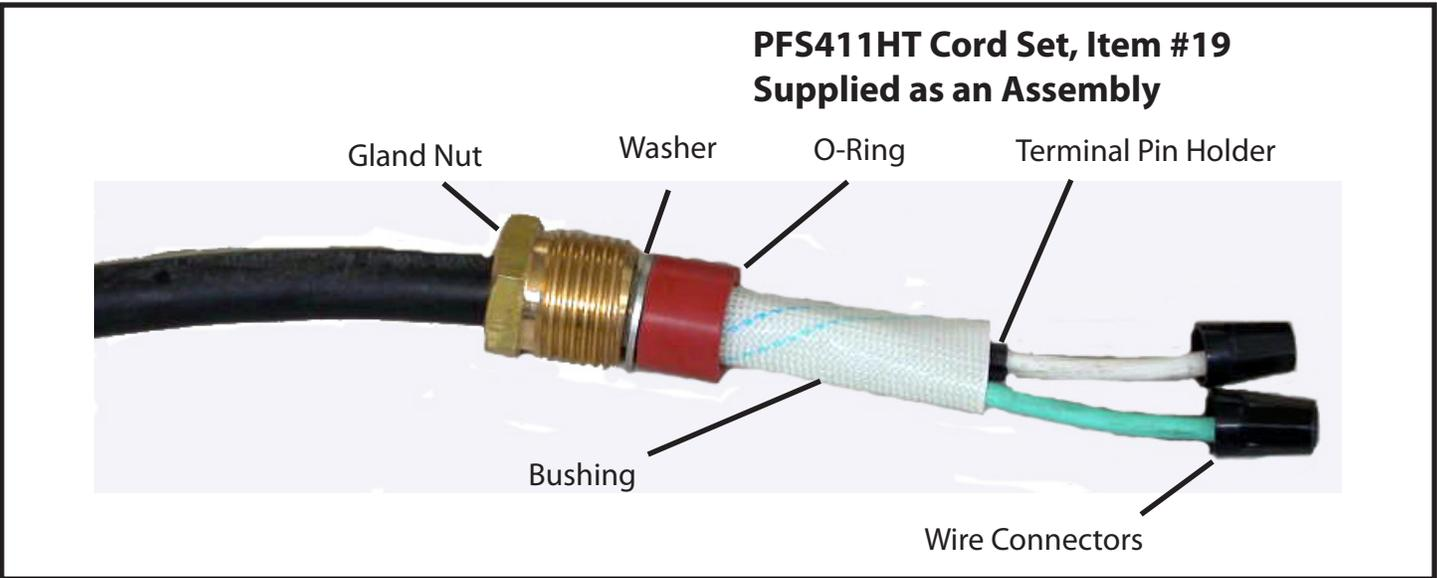

Figure 7
2. Remove cap screws (42) and remove strainer (39) on HT model. (See Fig 7)
3. Remove cap screw (34) and washers (35) vertically lift motor, housing and seal plate assembly from volute (1). Clean out volute (1) if necessary.
4. Inspect gasket (2) and replace if cut or damaged.
5. Clean and examine impeller (38), for cracks or breakage and replace if required. To remove impeller (38), place a flat screwdriver in the slot of the end of the shaft to hold the shaft stationary while unscrewing the impeller (38).
6. Check v-ring (36) and remove if damaged.